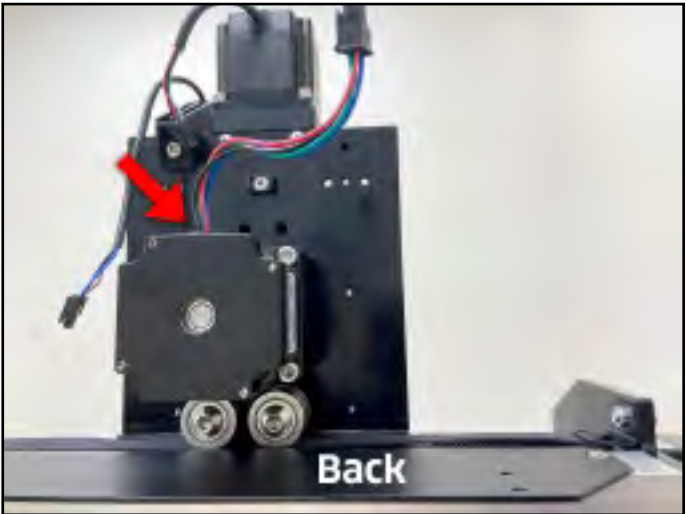

Figure 5-3
- 4. Position the X-motor over the threaded screw holes on the motor housing. **See Fig. 5-3.**
- 5. Use a 4mm hex key and four (4) M5×12mm SHCS to secure the X-motor to the motor housing. Fully tighten.